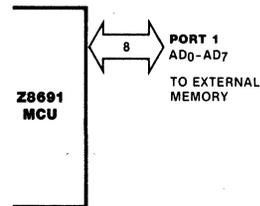

Figure 8. Port 1
**Port 1** is a dedicated Z-BUS compatible memory interface. The operations of Port 1 are supported by the Address Strobe (AS) and Data Strobe (DS) lines, and by the Read/Write (R/W) and Data Memory ( $\overline{DM}$ ) control lines. The low-order program and data memory addresses ( $A_0$ - $A_7$ ) are output through Port 1 (Figure 8) and are multiplexed with data in/out ( $D_0$ - $D_7$ ). Instruction fetch and data memory read/write operations are done through this port.